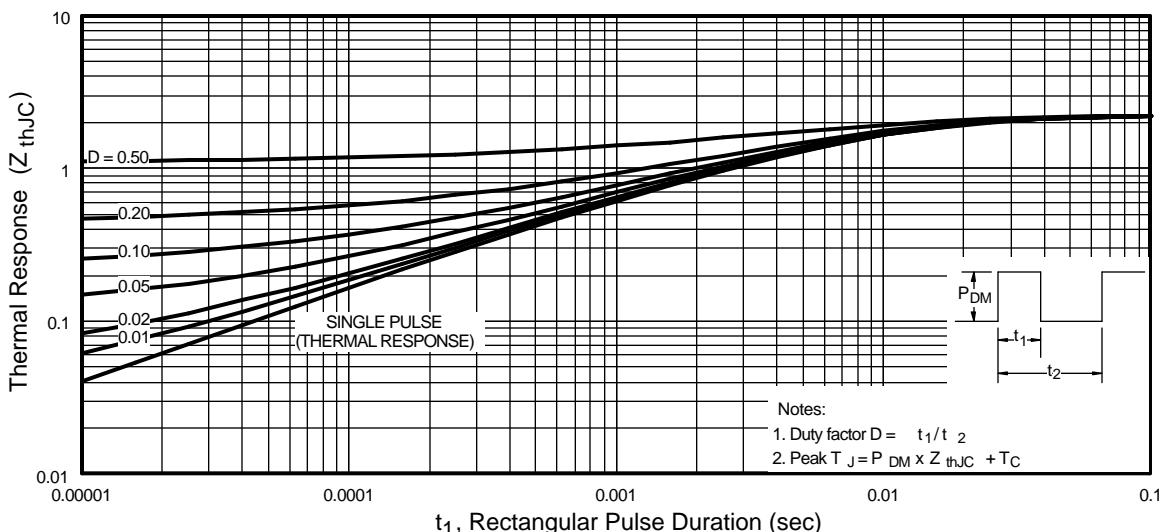

Fig 11. Maximum Effective Transient Thermal Impedance, Junction-to-Case
- ① Repetitive rating; pulse width limited by max. junction temperature. (See fig. 11)
② Starting $T_J = 25^\circ\text{C}$, $L = 3.2\text{mH}$